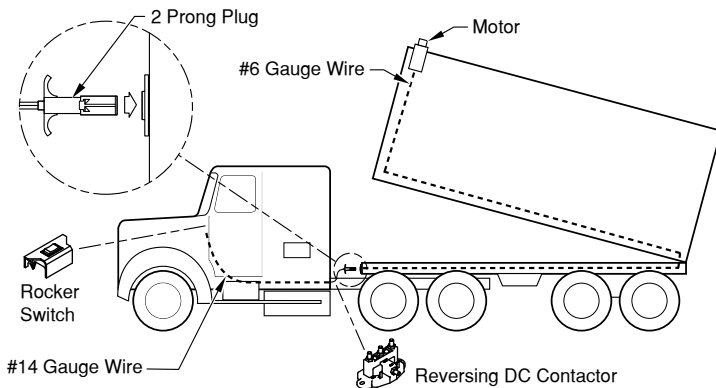

Figure 17-1
- 2a) **Figure 17-1.** Run #6 wire from receptacle to rear of trailer, onto dump bed, back to the front of the trailer and up to the motor. Secure all wire with clamps.